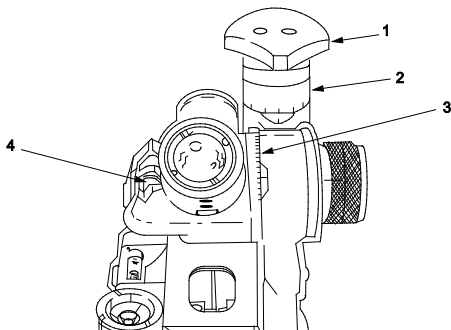

Figure 5. Aiming Circle Elevation Controls and Scales.
1. The elevation knob (Figure 5, Item 1) adjusts the elbow telescope elevation. The elevation micrometer scale (Figure 5, Item 2) is numbered at 10-mil intervals, with each graduation being 1 mil. The black numbers 0-100 mils read elevation and the red numbers 0-100 mils read depression.
2. The elevation scale (Figure 5, Item 3) is numbered at 100-mil intervals, with each graduation being 100 mils. The black numbers 0-800 mils read elevation and the red numbers 0-400 read depression.
3. The elbow telescope tube level (Figure 5, item 4) shows when the elbow telescope is level.